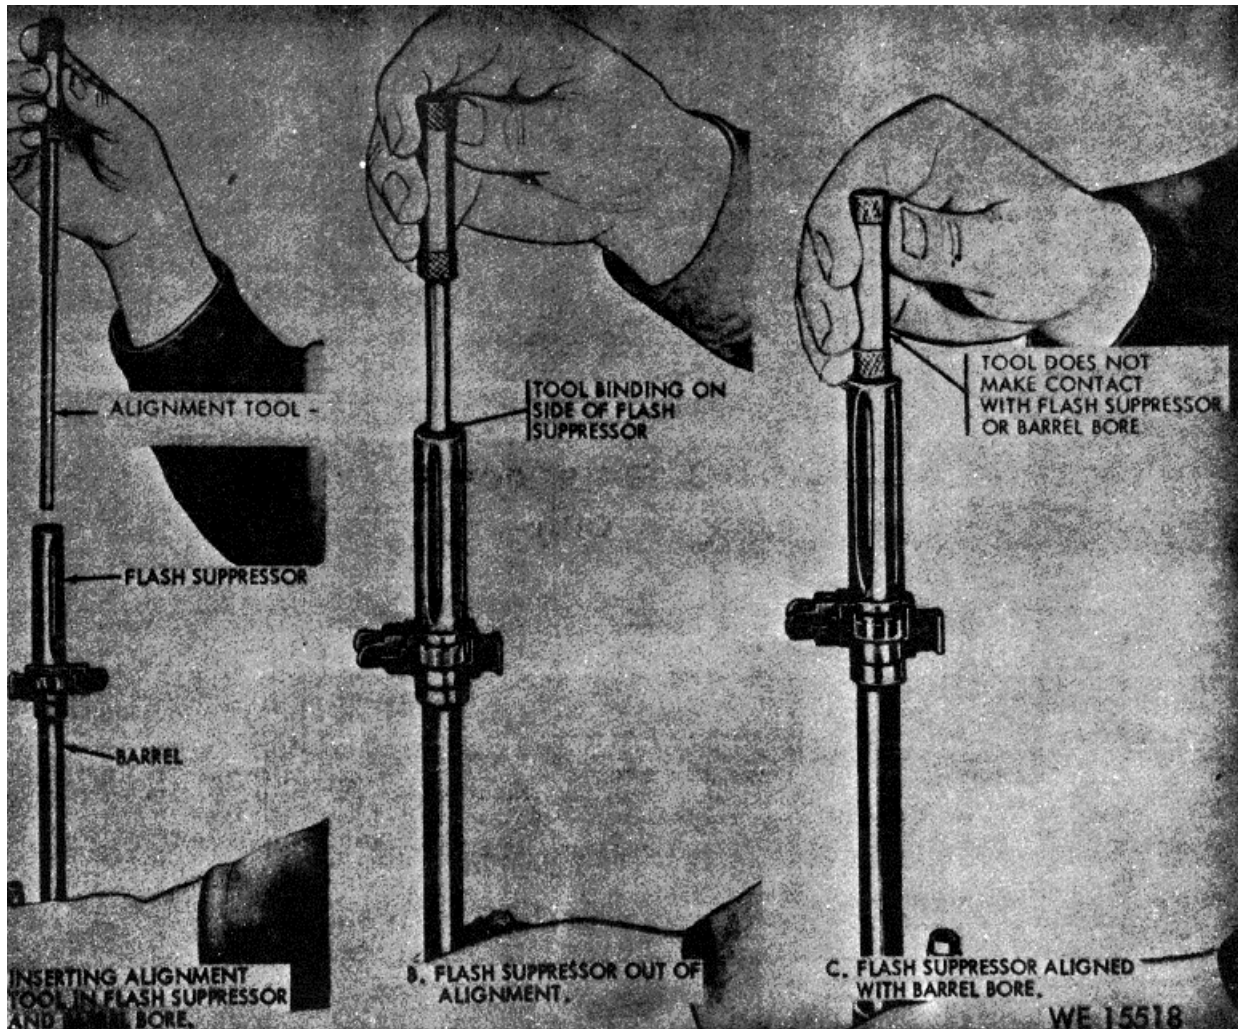

Figure 8-3. Checking alignment of flash suppresser with alignment tool.
c. *Flash Suppressor.* Use alignment tool (fig 8-3) to check alignment of flash suppressor with